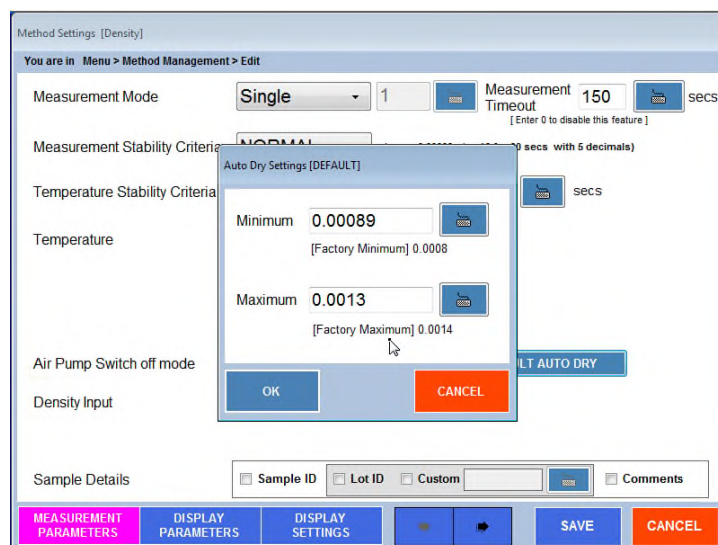

Figure 6.6 – Auto Dry Feature
- 1) **Auto** – The instrument continuously measures the density as the U-tube is drying. Once the dry is that of dry air the pump will automatically turn itself off. See Figure 6.6 in next page for how to set turn off conditions.